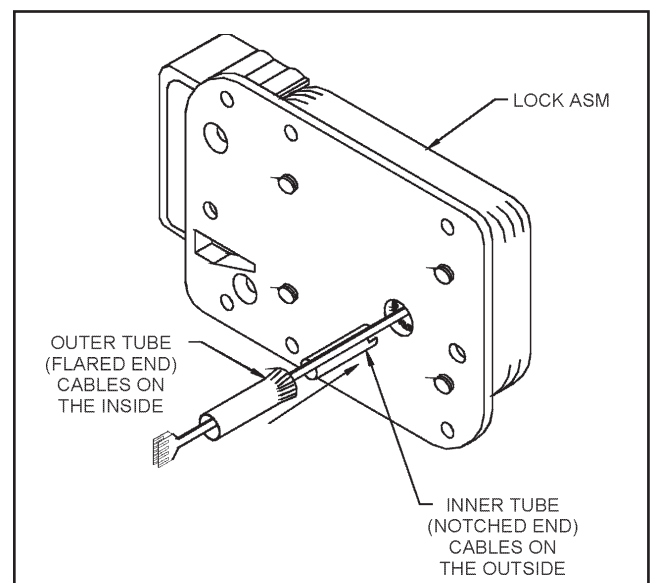

Figure 6 - Tube-Cable Assembly Relationships
2. Refer to Figure 6. Feed the cables through the outer, larger, tube starting from the flared end of the tube. Seat the tube into position on the tube retainer on the back of the lock case assembly. Be careful to keep the cables pulled taut while seating the tube to avoid pinching damage to them.